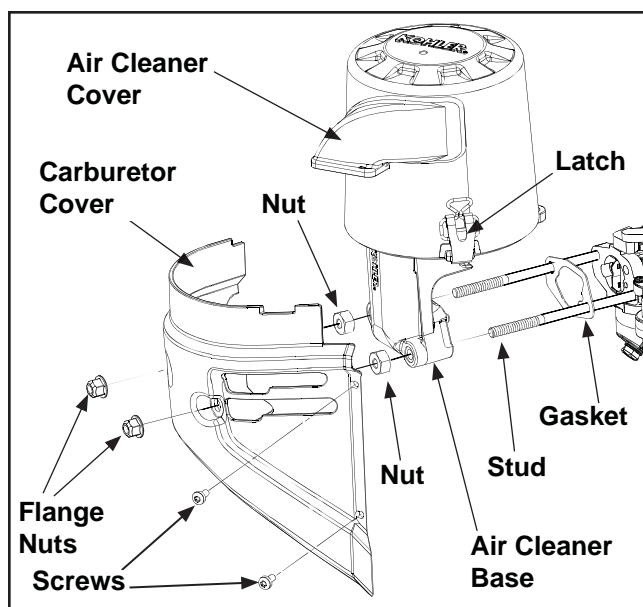

Figure 5-9. Removing Air Cleaner Assembly.
1. Remove the air cleaner cover, filter element with precleaner, the carburetor cover mounting screws, and hex flange nuts from the mounting stud(s). See Figure 5-9.
2. Disconnect the breather hose from the valve cover or air cleaner base. Remove the two nuts, the hex flange screw securing the base to the head, and air cleaner base from the mounting studs. See Figure 5-9.